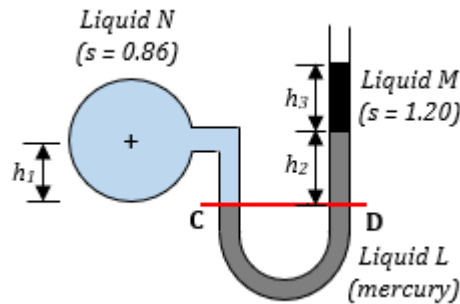

Figure 3
9. Figure 3, shown a pressure system. Liquid M has specific gravity as 1.20 liquid N has specific gravity as 0.86 liquid L is mercury. If the distance $h_1 = 150$ mm, $h_2 = 300$ mm and $h_3 = 350$ mm. Calculated the pressure in the pipe P.